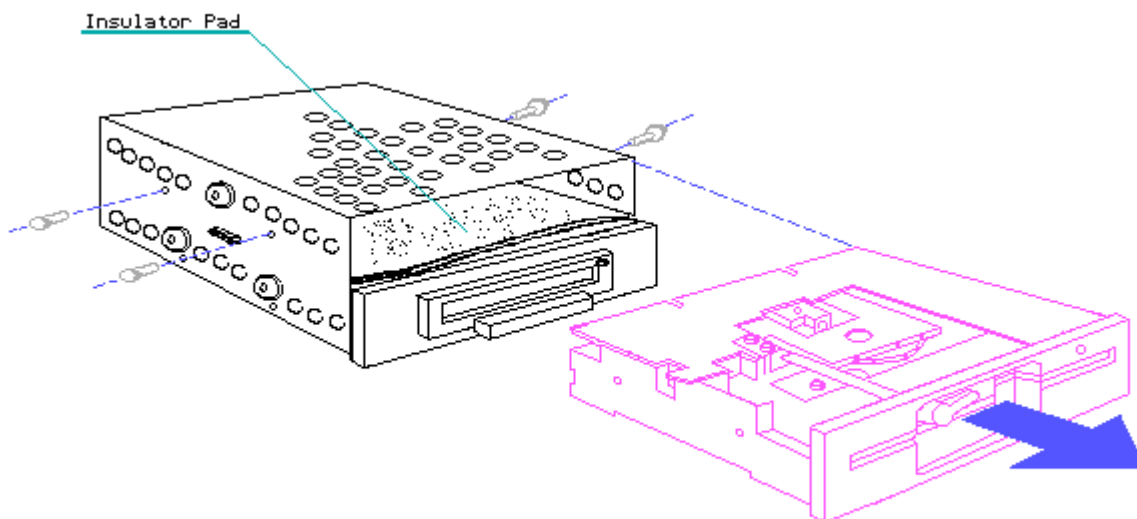

Figure 7.11-12. Removing Device 1A from the Enclosure
10. Remove the two mounting screws from each side of Enclosure A and slide the device out of the enclosure (Figure 7.11-12).